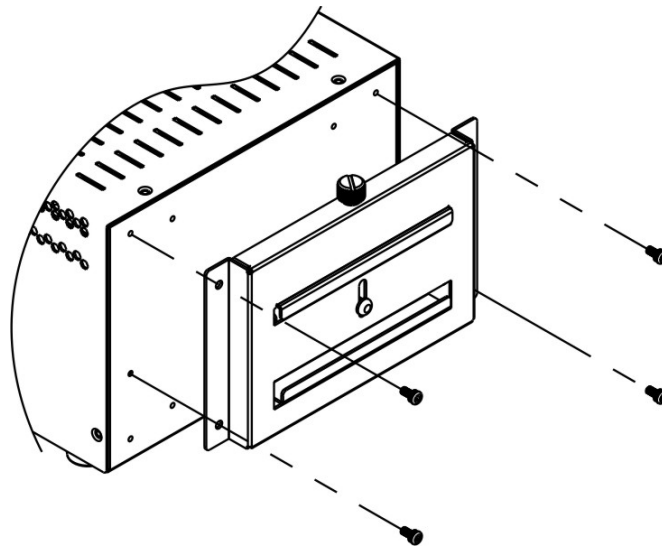

Figure 4-9: DIN Rail Mounting Bracket
Step 1: Attach the DIN rail mounting bracket to the bottom panel of the embedded system. Secure the bracket to the embedded system with the supplied retention screws (**Figure 4-9**).